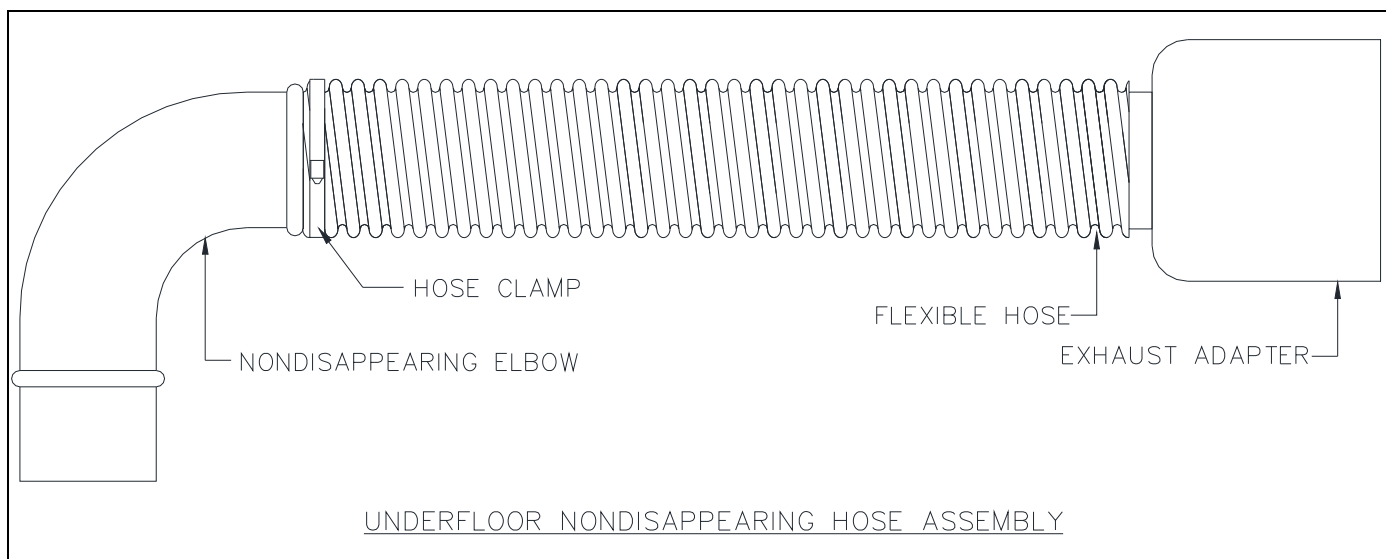

FIG 3
10. Assemble the nondisappearing hose assembly as depicted in FIG 3.
12. Fasten the exhaust adapter to the other end of the flexible hose using the provided hose clamp. To ensure a rigid connection is established, drill and rivet the connections through the hose clamps. See FIG 3.